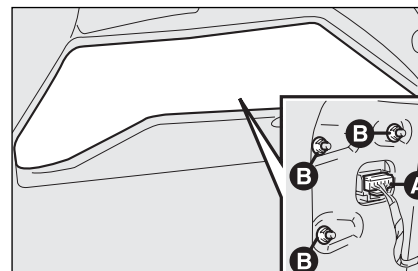

fig. 30
- from inside the boot, withdraw the connector **A**-**fig. 30**, loosen the 3 nuts **B** with the extension (where provided) used to tighten the wheel bolts (supplied with the tool kit) and remove the light unit.